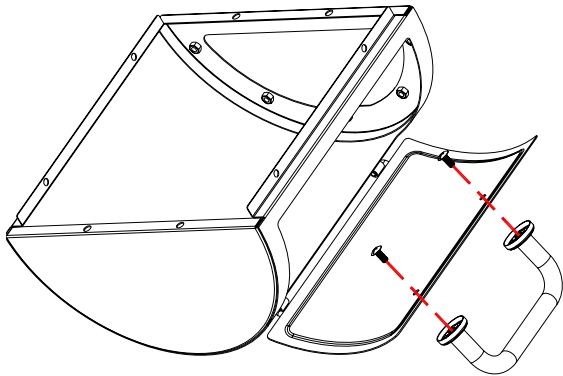

Fig.10
Refer to Fig.10 Lift the Lid up and insert (2) M6x15 bolts from the INSIDE of the Lid then attach the Handle and Lid